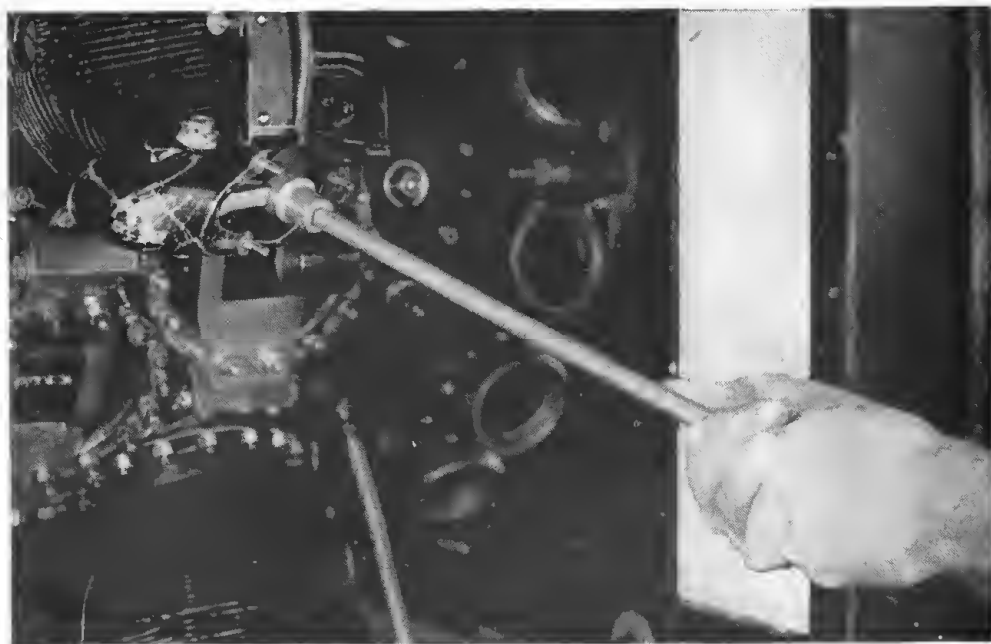

Figure 33. Rocker-arm depressor in use.
(2) The rocker-arm depressor is placed over the rocker arm and a long extension bar is inserted into the hole in the top of the rocker-arm depressor. Pressure is maintained on the bar toward the rocker arm to prevent the depressor from slipping off. The extension bar is pulled to the side and down, freeing the push rod and cover so that they may be removed. (See fig. 33.)